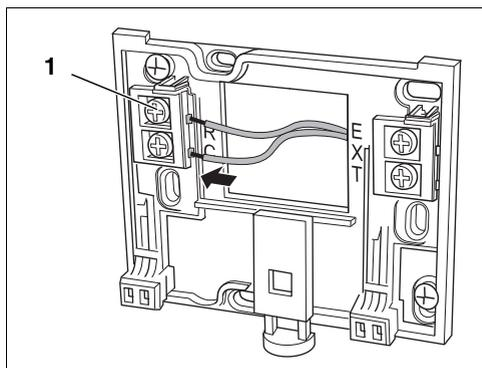

Fig. 16 Connect thermostat cable
- Connect the cable of the thermostat to the cable clamps "RC" (Fig. 16, pos. 1). The connection order of the wires is arbitrary.